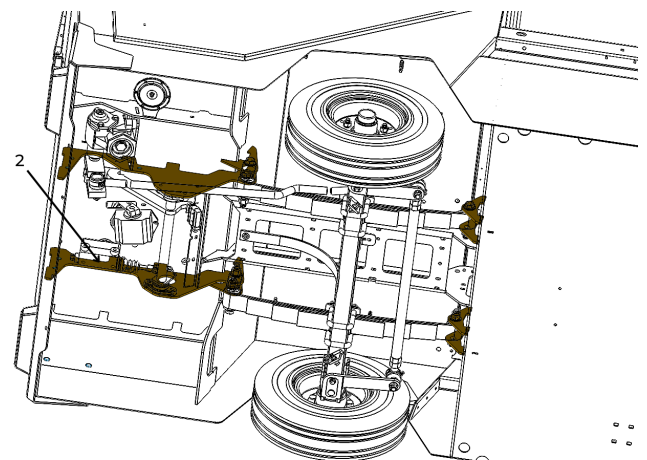

Figure 43. Front Suspension Mounting Tabs.
- Front suspension mounting tabs (2) (see Figure 43).